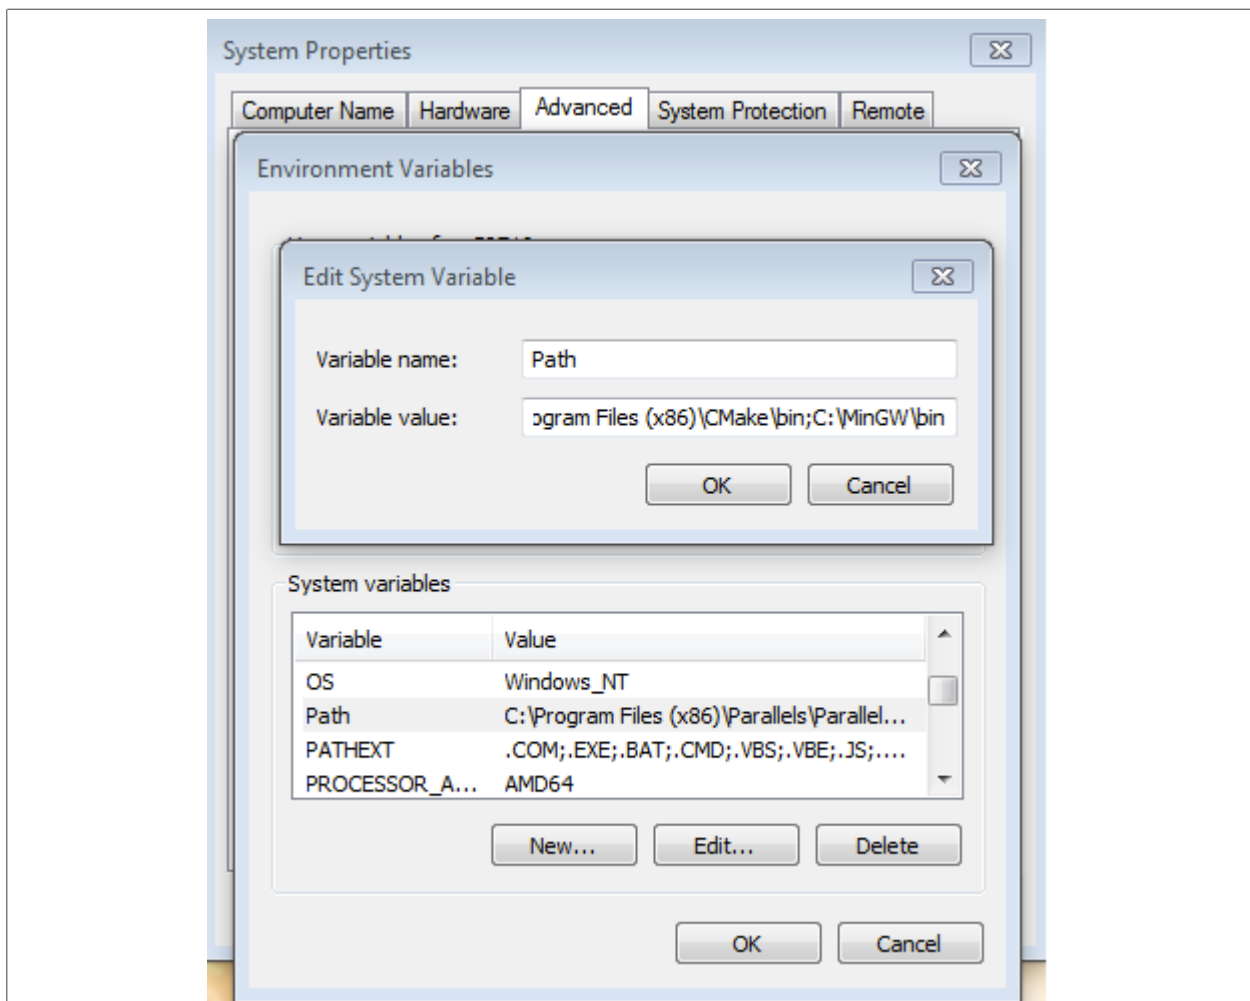

Figure 34. Add Path to systems environment
5. Add the appropriate item to the Windows operating system path environment variable. It can be found under **Control Panel->System and Security->System->Advanced System Settings** in the **Environment Variables...** section. The path is: <mingw_install_dir>\bin. Assuming the default installation path, C:\MinGW, an example is as shown in Figure 34. If the path is not set correctly, the toolchain does not work.